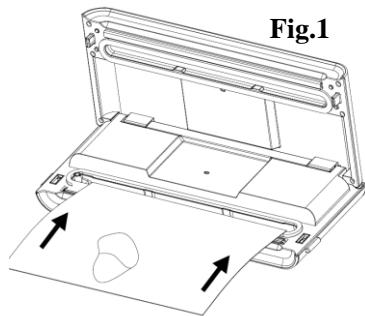

Fig.1
3. Insert the open end of the bag into the vacuum chamber area. Make sure the air intake is not covered by the bag. – Fig. 1.